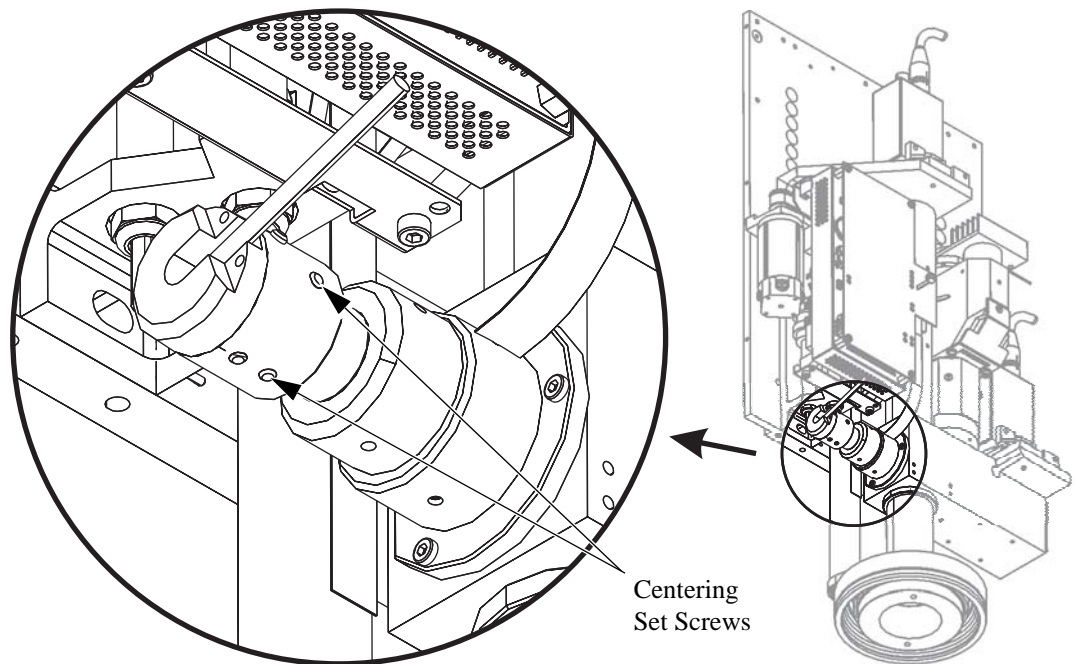

Figure 8-17 Centering the LED Reticle
11. Use a 1.5 mm Allen wrench to adjust the two centering set screws in the reticle housing (see Figure 8-17) until the reticle image is centered within the Circle Finder.